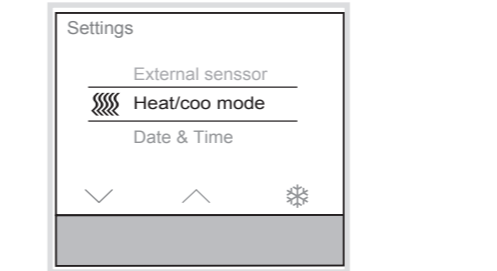

Figure 9: Heating or cooling mode selection
- The operating mode (figure 9) changes from heating [Heat] to cooling [Cool].